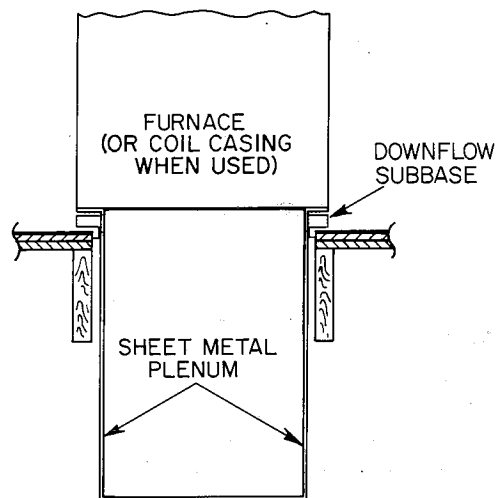

**Fig. 6—Furnace, Plenum, and
2. When completed, downflow subbase, plenum, and furnace (or coil casing when used) should be installed as shown in Fig. 6.